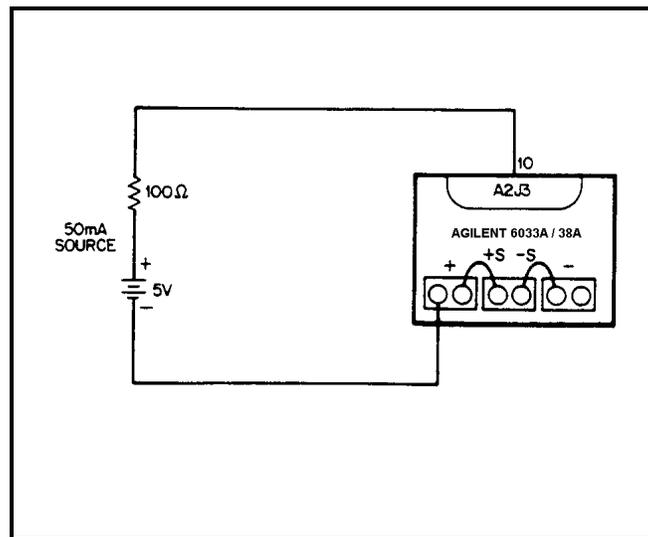

Figure 2-2. Remote Readback Zero And CV Zero Calibration Setup
- a. Connect an external supply to the power supply as shown in Figure 2-2.
- b. Connect an external supply to the power supply as shown in Figure 2-2.